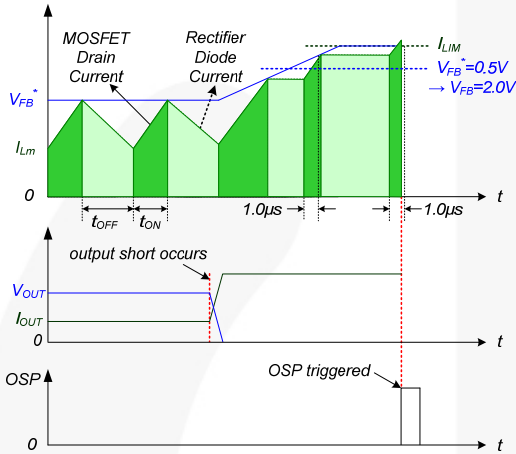

Figure 22. Output-Short Protection
4.3. Output-Short Protection (OSP): If the output is shorted, steep current with extremely high di/dt can flow through the SenseFET during the minimum turn-on time. Such a steep current brings high-voltage stress on the drain of the SenseFET when turned off. OSP protects the device from this abnormal condition. It is comprised of detecting V_{FB} and SenseFET turn-on time. When the V_{FB} is higher than 2.0V and the SenseFET turn-on time is lower than $1.0\mu s$, this condition is recognized as an abnormal error and PWM switching shuts down until V_{CC} reaches V_{START} again. An abnormal condition output short is shown in Figure 22.